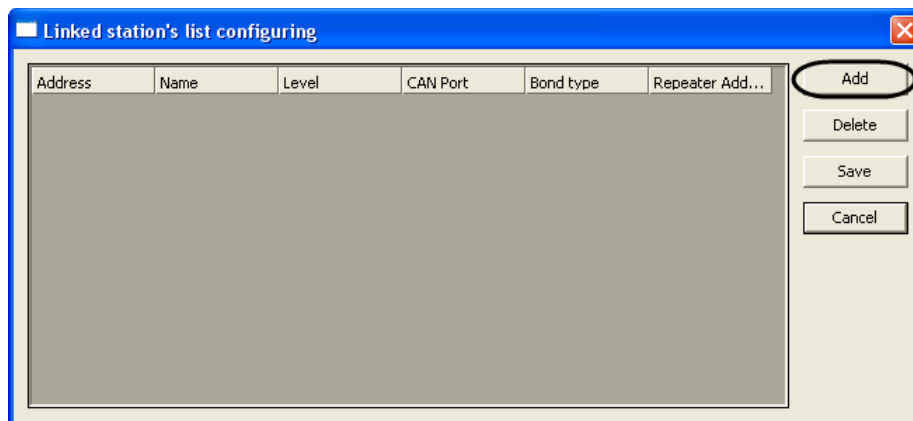

Fig. 3.3—6 The “Linked station's list configuring” window
4. To add an FCP to the linked station's list click “Add” button (see Fig. 3.3—6).